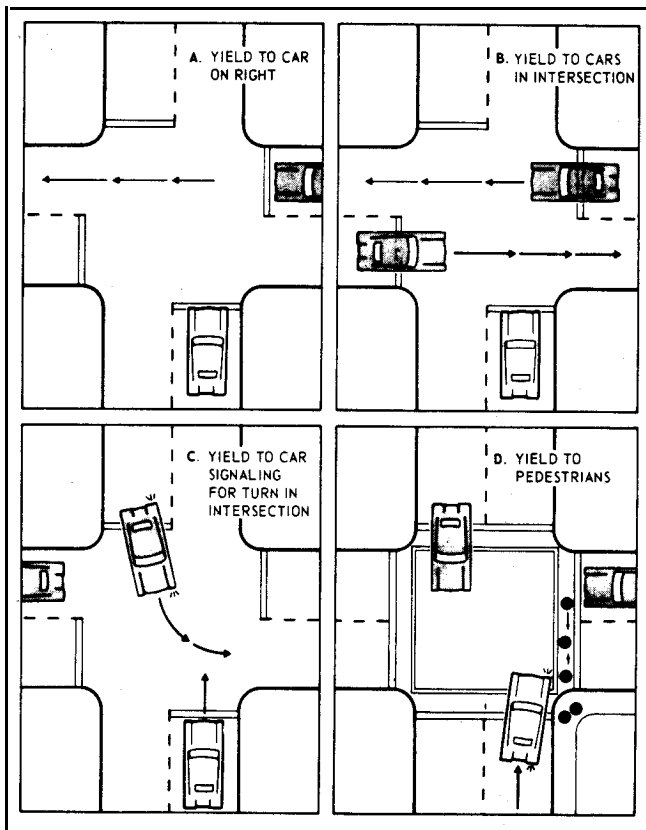

FIGURE 15
9.7 INTERSECTIONS. Most accidents that occur at intersections are the result of poor judgment and failure to yield the right-of-way (Figure 15). When in doubt, yield to other traffic. Signs and signals usually reduce the possibility of such accidents.